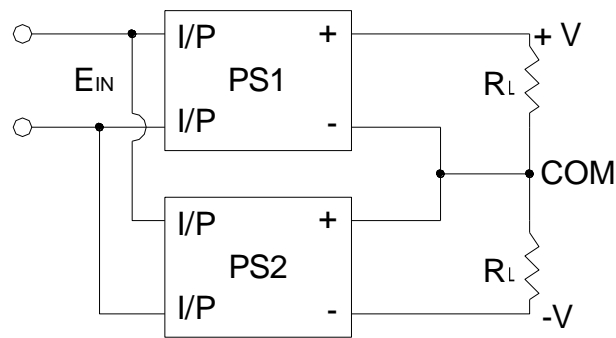

Figure 7.10: Positive and negative terminals connect in series
(1) Positive and negative terminals are connected as figure 7.10: